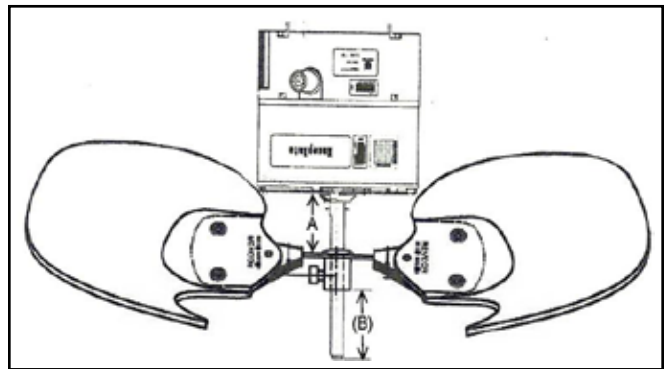

Figure 3. Fan Blade Position
2. Install fan blade, setting position of hub on shaft such that Dimension "B" shown in Figure 3 is 13/16" to 7/8".
2. Install fan blade. For 2-blade fans, set position of hub on shaft so that dimension B shown in Figure 3 is 13/16" to 7/8". For 4-blade fans, set Dimension "B" to 7/16" to 1/2".